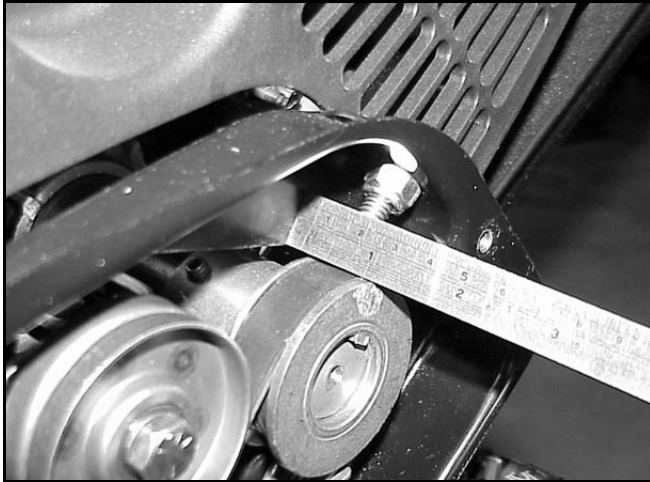

Figure 49
2. Before tightening the setscrews on the engine pulley, the alignment of the pulleys needs to be checked (Figure 49). Measure from the side plate to the outer pulley flange. Adjust the pulley until the gap is 1" (25.4mm).